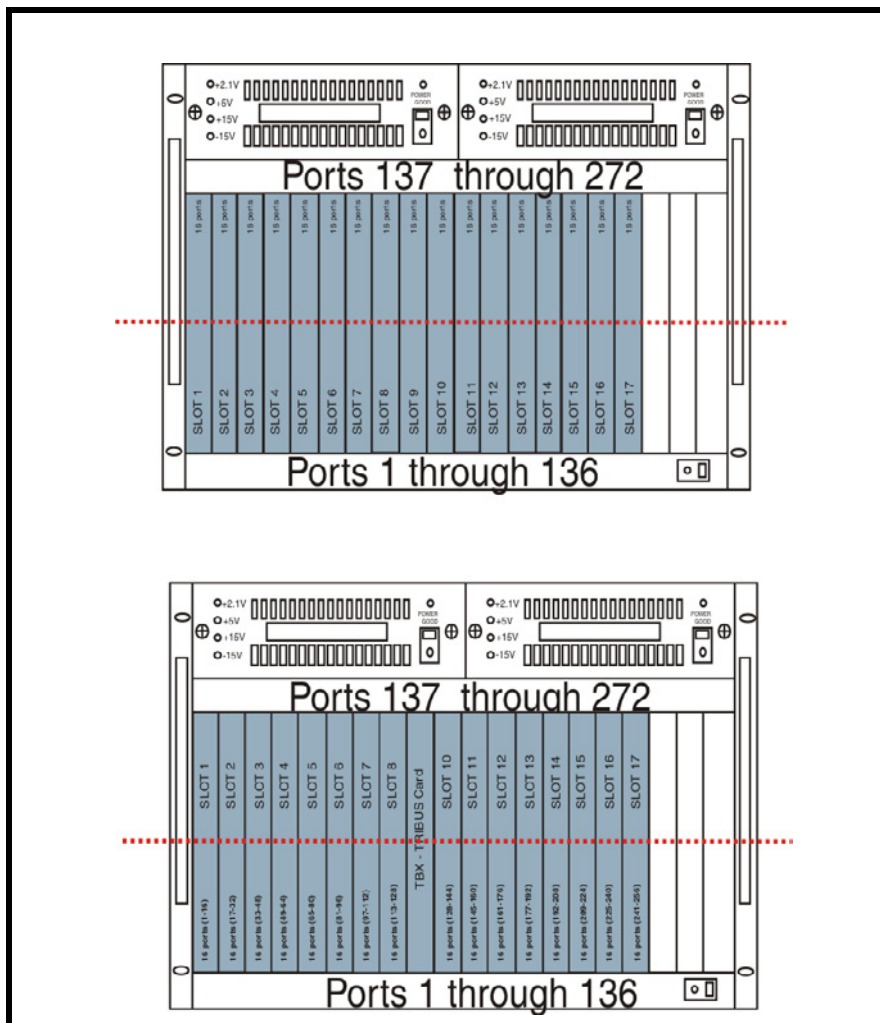

FIGURE 39. Base 16 Port Numbering System Example
The **Base 16 Port Number System** is newly supported with the TBX-Tribus Card. Unlike the Base 8 Port Number System, where the ports were split into an upper and lower set of eight (8) ports, the Base 16 Port Number System puts all 16 ports in one slot. This means, when you configure your intercom system to support Base 16, slot 1 in the ADAM holds ports 1–16, slot 2 holds ports 17 through 33, slot 3 holds 34 through 49, and so on. When a Tribus card is inserted into the frame, the port numbering system jumps to the next available AIO card slot, see Figure 39.